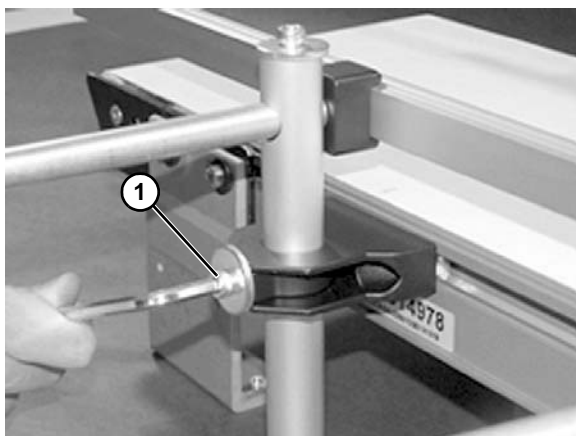

Figure 84
- Adjust rail height with lower screw (**Figure 84, item 1**).